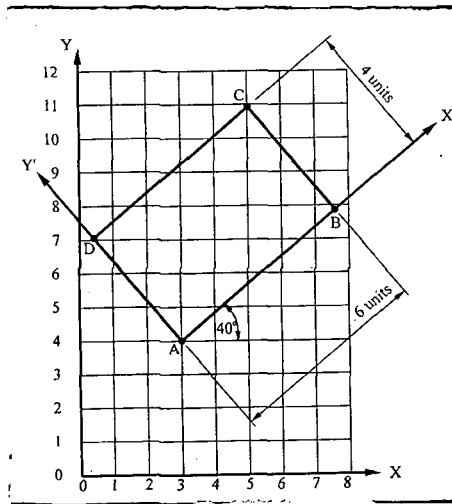

Figure-1
- b) A rectangle ABCD has the length of edge AB as 6 units and is inclined to the horizontal axis by  $40^\circ$ . The other edge of the rectangle is 4 units. If in the world coordinate system, the coordinates of point A are (3, 4), then determine the coordinates of points B, C and D in user coordinate system and world coordinate system. To define the user coordinate system, the edge AB can be considered as X-axis with point A as the origin. The presented problem is shown in Figure-1. (16)